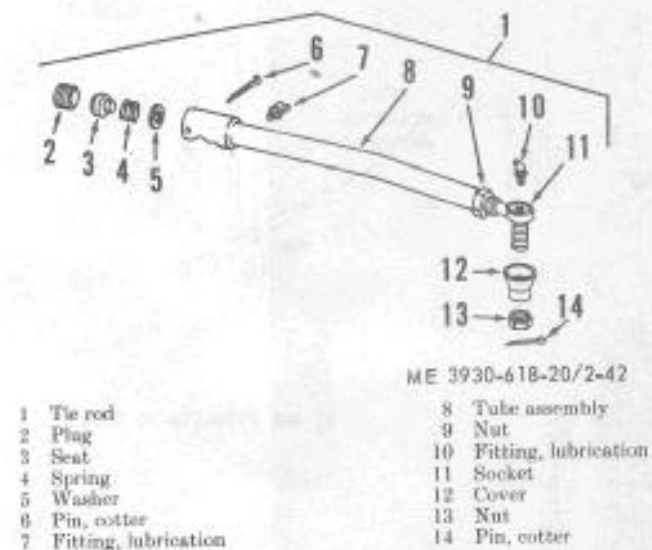

Figure 2-42. Tie rod, exploded view.
- (1) Loosen the adjusting plug and disconnect the tie rod from the pivot arm.
- (2) Remove the nuts from the ball socket on the opposite end of the rods and remove the tie rods from the truck.
b. Disassembly. To disassemble tie rods, remove the adjusting plugs and withdraw the internal parts (fig. 2-42). If desired, unscrew the ball sockets. Note the position of each part to assure proper assembly.